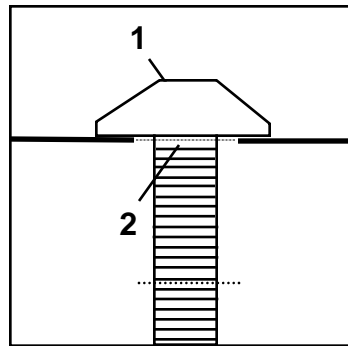

Figure 2
1. At right front corner of center section, remove undercoating from square-shaped hole and bottom subrail. Insert oval T-bolt in square-shaped reference hole on underside of rocker panel. (See Figure 2.) Turn bolt head so that it straddles the reference hole allowing bolt to hang freely from the reference hole.